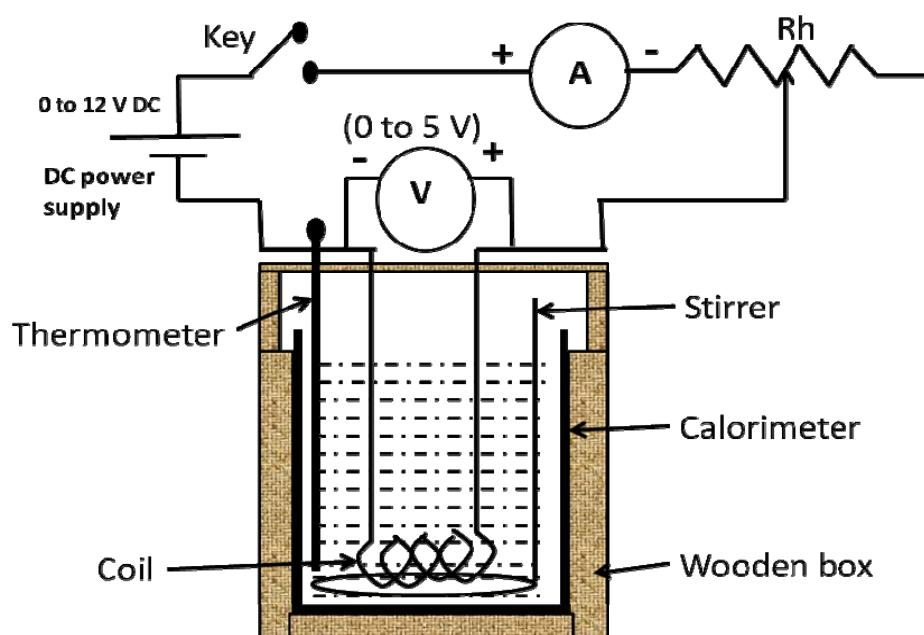

Fig.01
4. Connect the circuit as shown in Fig.01.
7. Adjust the current (I) to a desired value (say I=1.5A) using rheostat.
8. Note down the corresponding voltage (V).